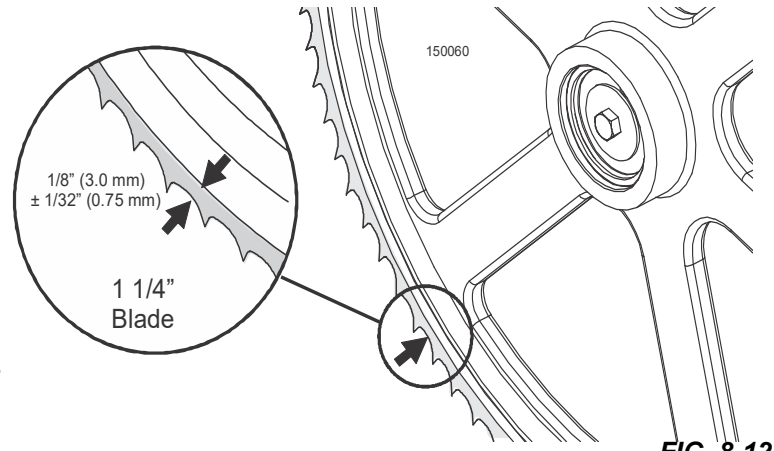

FIG. 8-12
8. If necessary, adjust the drive-side blade wheel to position the blade as shown in Figure 8-12.